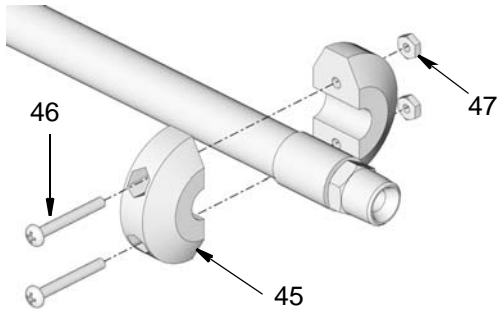

FIG. 84
4. Remove dispense valve, nuts (47), screws (46) and ball stop (45) from end of hose (FIG. 84). Cap end of hose to prevent fluid spills.
4. Remove dispense valve, nuts (47), screws (46) and ball stop (45) from end of hose (FIG. 84). Cap end of hose (if needed) to prevent fluid spills.